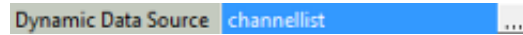

FIG. 131 Dynamic Data Source property indicating "channelList.csv"
4. The selected Data Source file is indicated in the *Dynamic Data Source* property (see "channelList.csv" in FIG. 131):